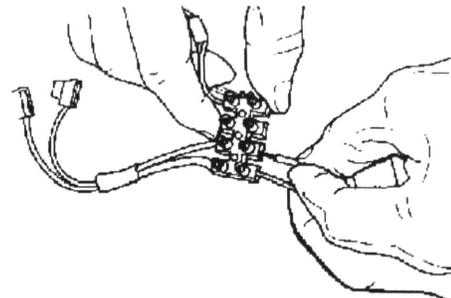

Figure 8
- Matching wire color, insert one stripped wire at a time into connector and tighten screw securely. Tighten screw using a small flat blade screwdriver. Repeat above step for each remaining wire. See Figures 8 and 9 for details.